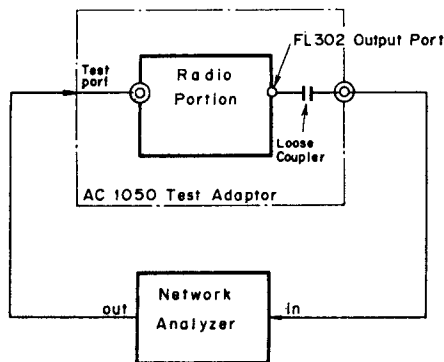

Figure 11 - Adjustment Method for FL301/FL302
- (1) Apply the output of the network analyzer to the RF coaxial input terminal and connect the loose coupled output from FL302 output port to the network analyzer input (see Figure 11).